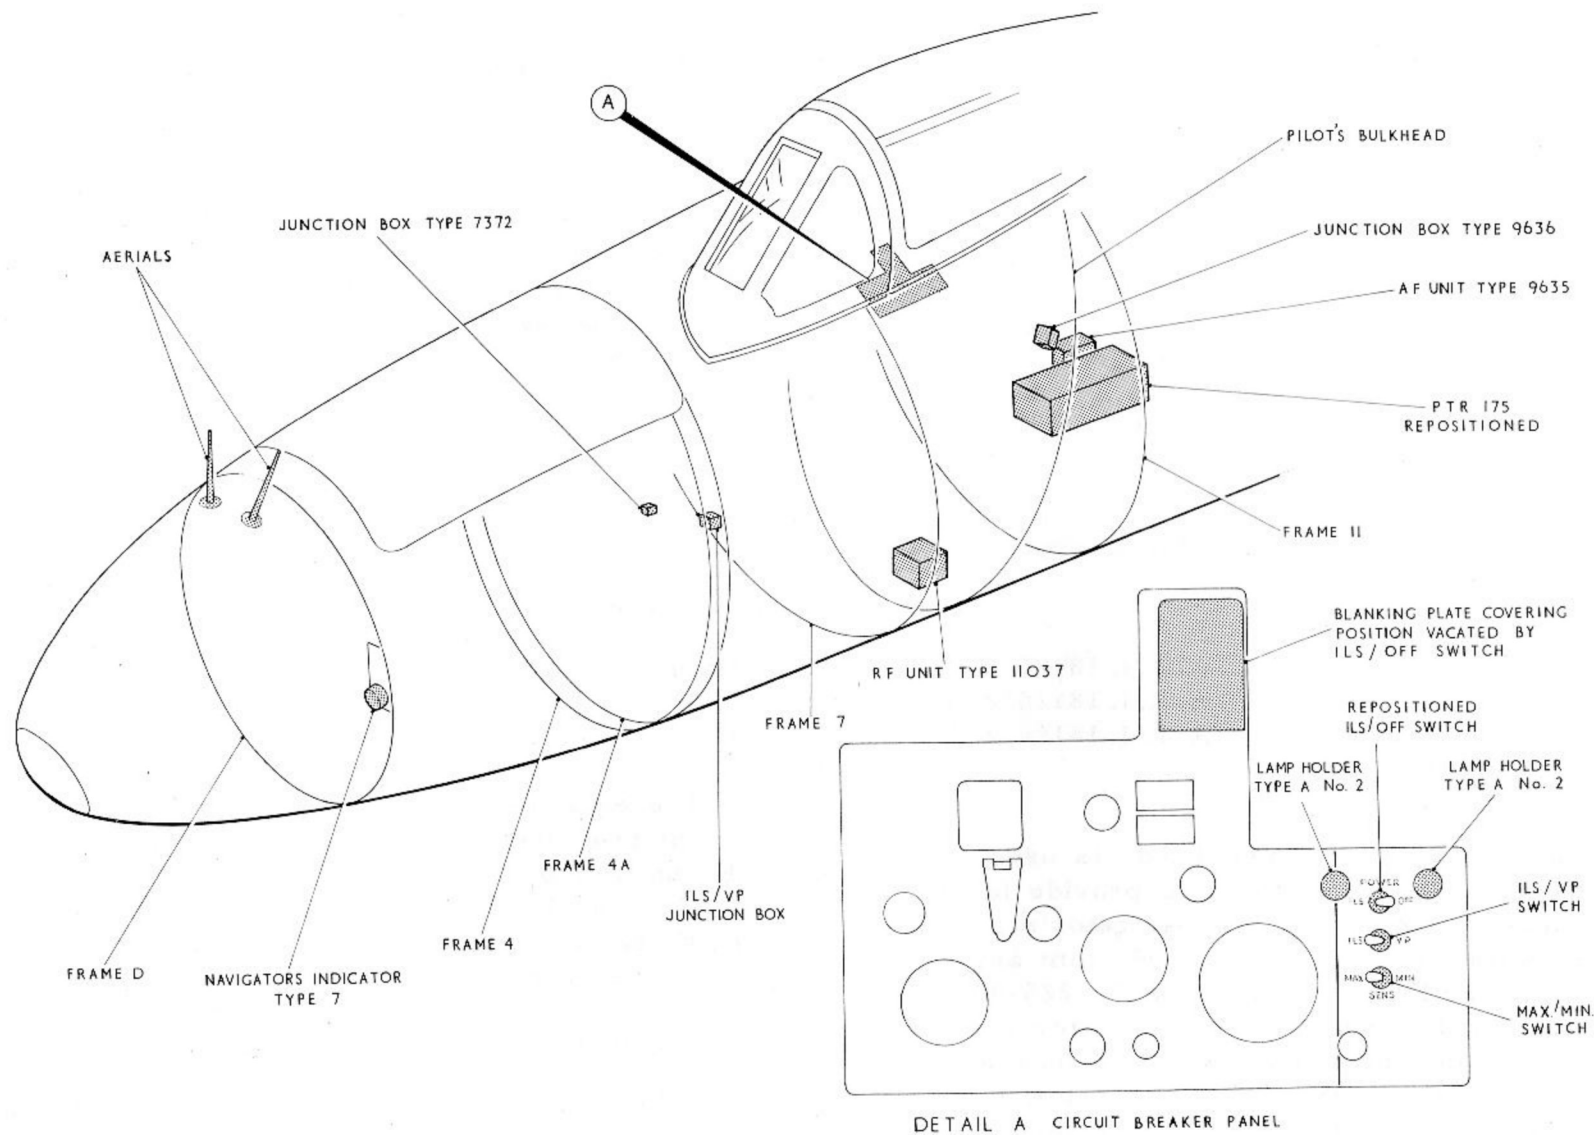

Fig.1. A.R.I. 18120/2 — location
1. This chapter describes the various radar installations and provides in situ servicing and testing information together with instructions (where not obvious) for the removal of equipment from the aircraft. The location of the radar equipment is shown in fig. 1.